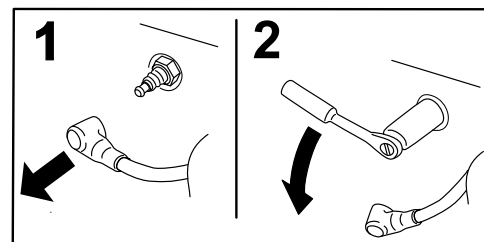

Figure 42
5. Disconnect the spark plug caps from the spark plugs (Figure 42).